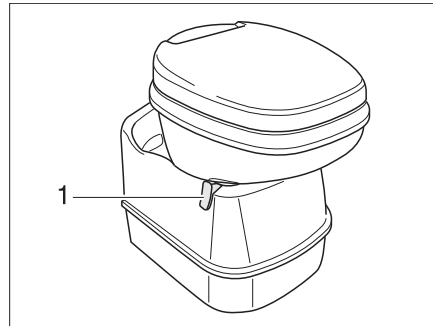

Fig. 100 Thetford toilet bowl, swiveling
- Before flushing open the sliding trap of the Thetford toilet. To do this, push the slide lever (Fig. 100,1) anticlockwise.
- Push the slide lever (Fig. 100,1) in a clockwise direction. The sliding trap is closed. To empty, the sliding trap of the Thetford toilet **must** be closed.